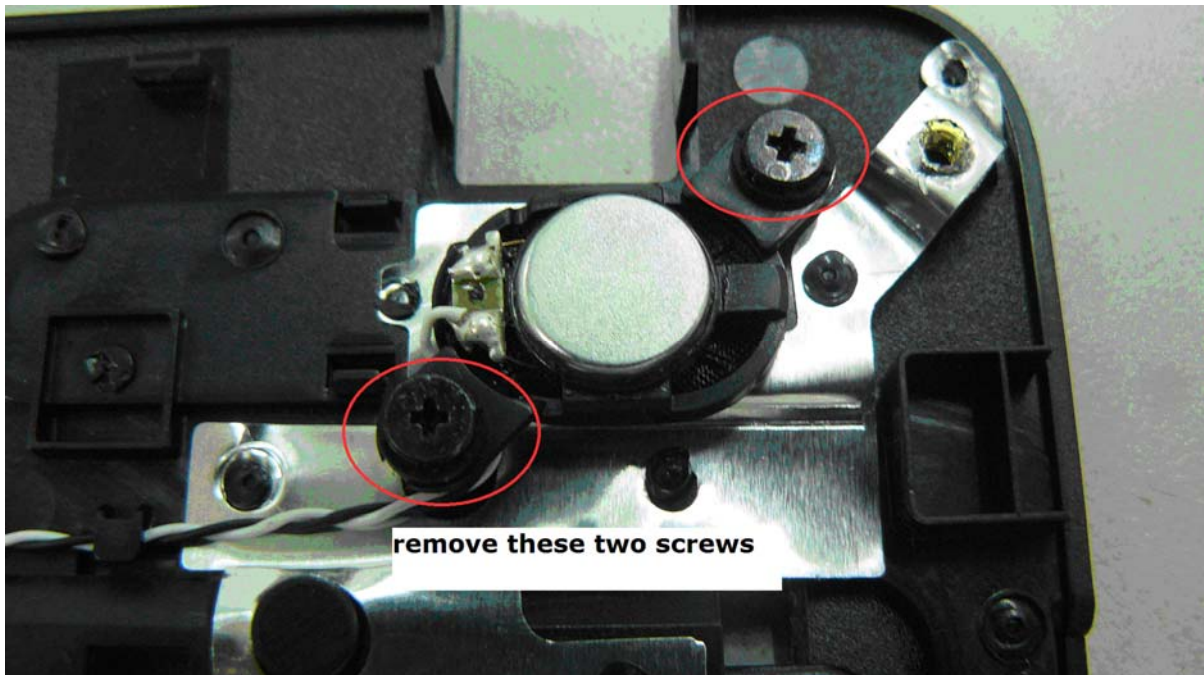

Figure 4-6-7 Remove speaker
16. Remove the Screws M2.0*5.5F 4PCS and take off speaker module.(Figure 4-6-7)